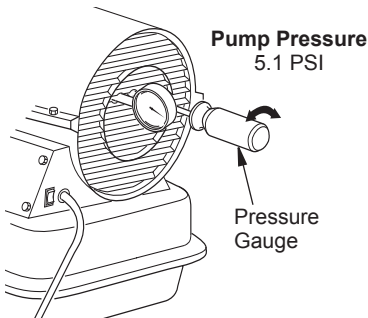

Figure 11 - Adjusting Pump Pressure
4. Adjust pressure. Turn relief valve to right to increase pressure. Turn relief valve to left to decrease pressure. See specifications correct pressure for each model (see Figure 11).